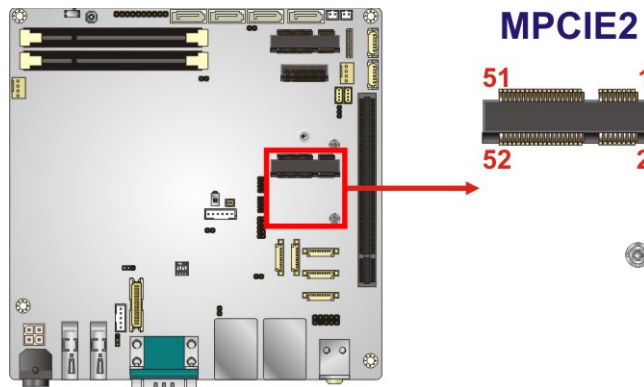

Figure 3-17: Half-size PCIe Mini Card Slot Location
- CN Location:** See Figure 3-17